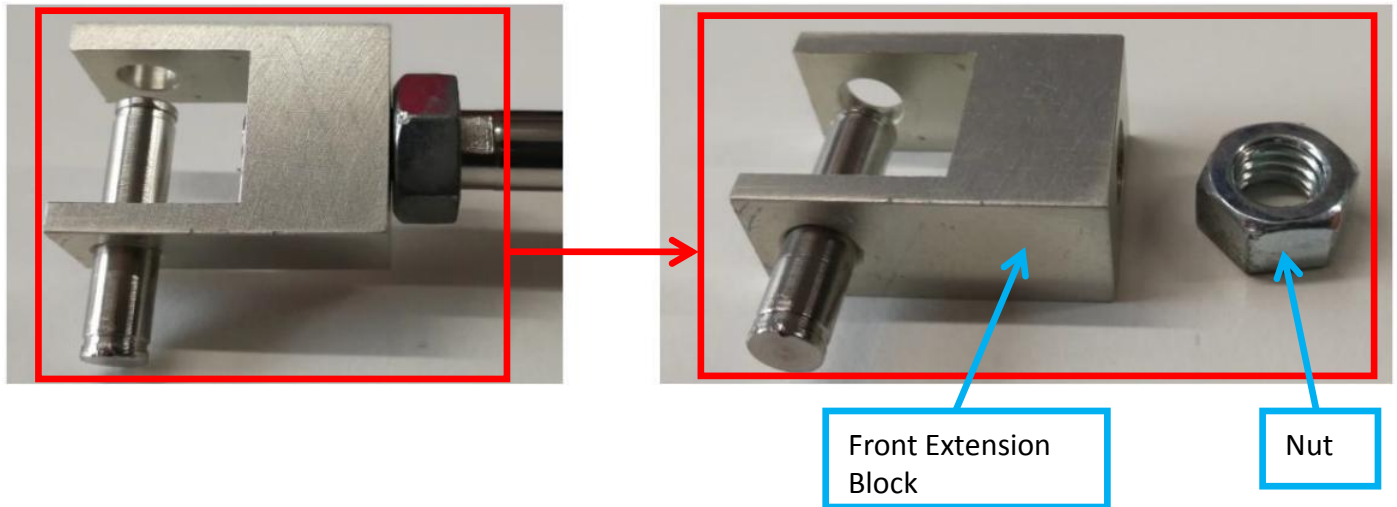

Figure 12
16. Remove Nut & Front Extension Block (With Dowel Pin) as Figure 12
17. Remove 1 x C-Clip at Rear Cylinder Holder as Figure 12. Position C-Clip at visible location.